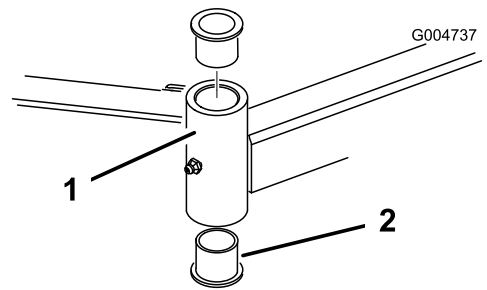

Figure 79
4. Insert a pin punch into the top or bottom of the mounting tube and drive the bushing out of the tube (Figure 79). Also drive the other bushing out of the tube. Clean the inside of the tubes to remove dirt.